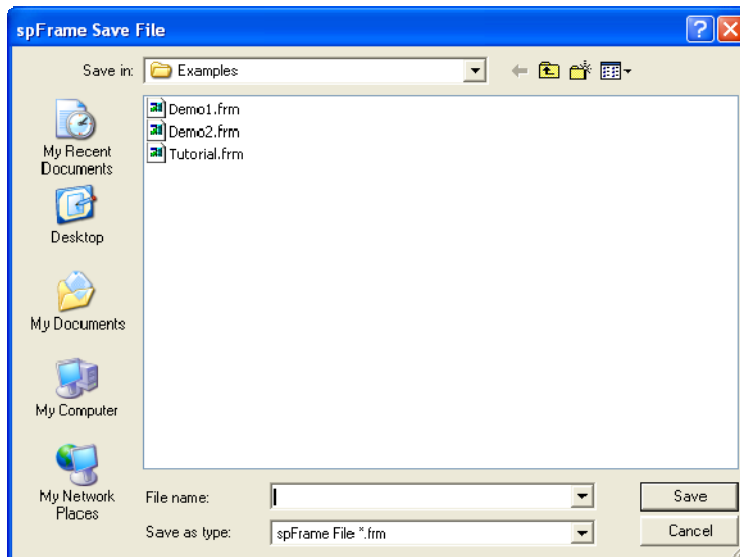

Figure 3-3 Save As dialog box
- From the **File** menu, select **Save As**. The dialog box of Figure 3-3 appears.
- From the File menu, select Save As. The dialog box of Figure 3-3 appears.